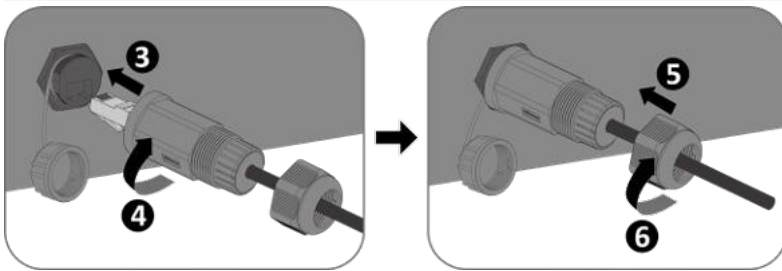

Fig. 50. Connect the network cable
3. Plug the network cable into the corresponding communication port of the device (see COM4 or COM5) (see Fig. 50, observe sequence and arrow directions), tighten the thread sleeve, then tighten the forcing nut at the end.